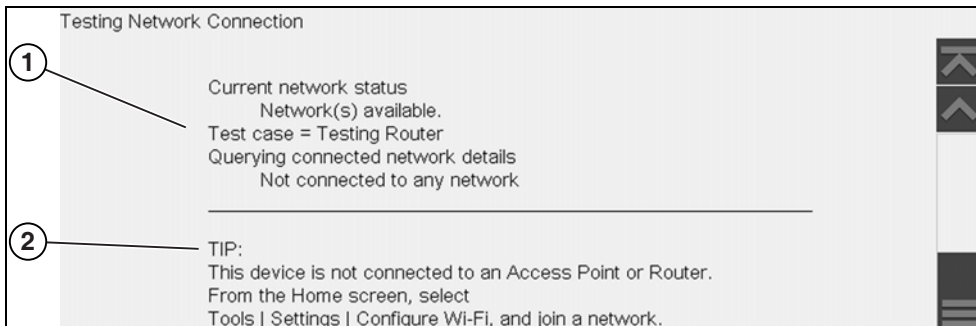

Figure 13-6 View Summary
- If a connection issue(s) is present, select **View Summary** to review the results. The summary information is helpful if you are experiencing difficulties with your connection (Figure 13-6). Scroll through the summary information to review the test results for each system and Tip messages for the current connection issue. See *Connection Tests - Troubleshooting* chart in “Wi-Fi Troubleshooting and Status Messages” on page 89 for additional information.